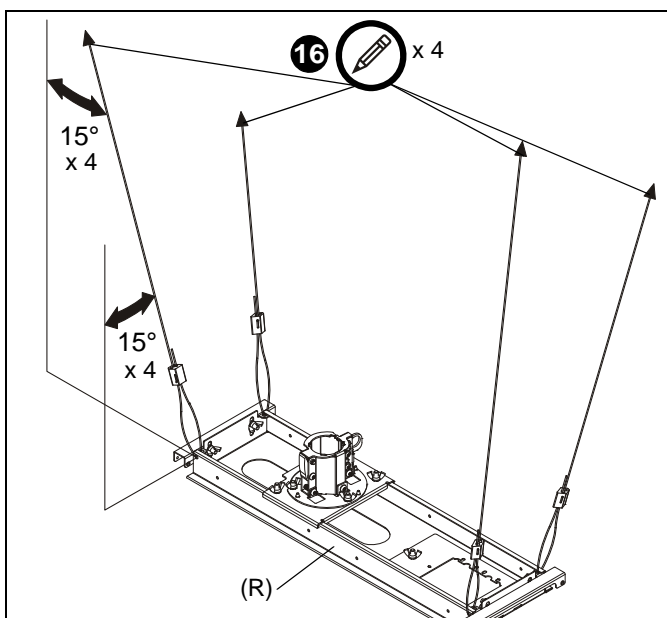

Figure 11
15. Examine ceiling structure (concrete or wood) above ceiling plate assembly (R) to identify four support cable anchor locations. Each location should be approximately 15° outboard of support holes in ceiling plate assembly (R) (See Figure 11).